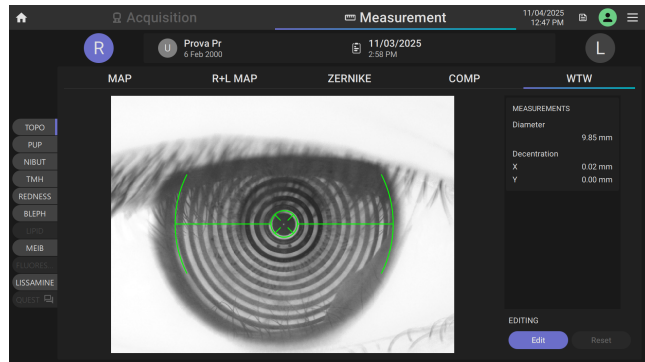

Figure 13.22: White to white measurement interface
- 1 Tap **Edit** button to activate the positional indicators on the image (Figure 13.22)